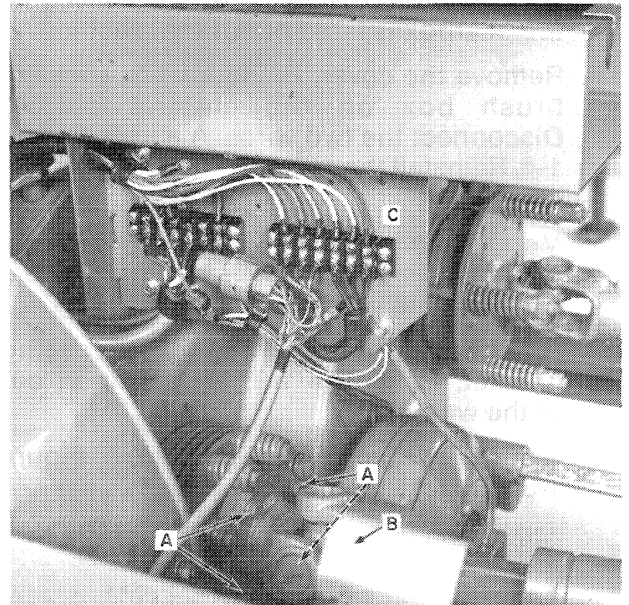

FIGURE 1-2
- b. Slip clutch drive - Remove the four mounting bolts, A, Figure 1-2. Remove the clutch now or wait until the gearbox is out of the machine.